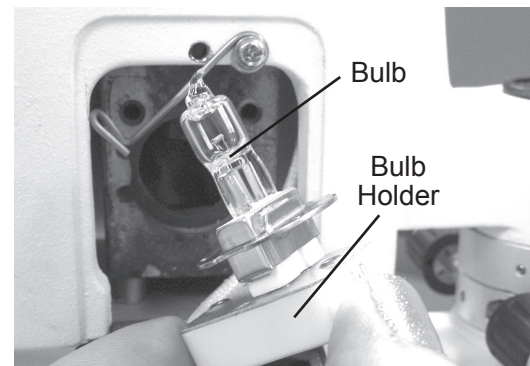

Figure MM-3 Bulb
4. Pull the Bulb Holder and Bulb from the unit. Refer to Figure MM-3.